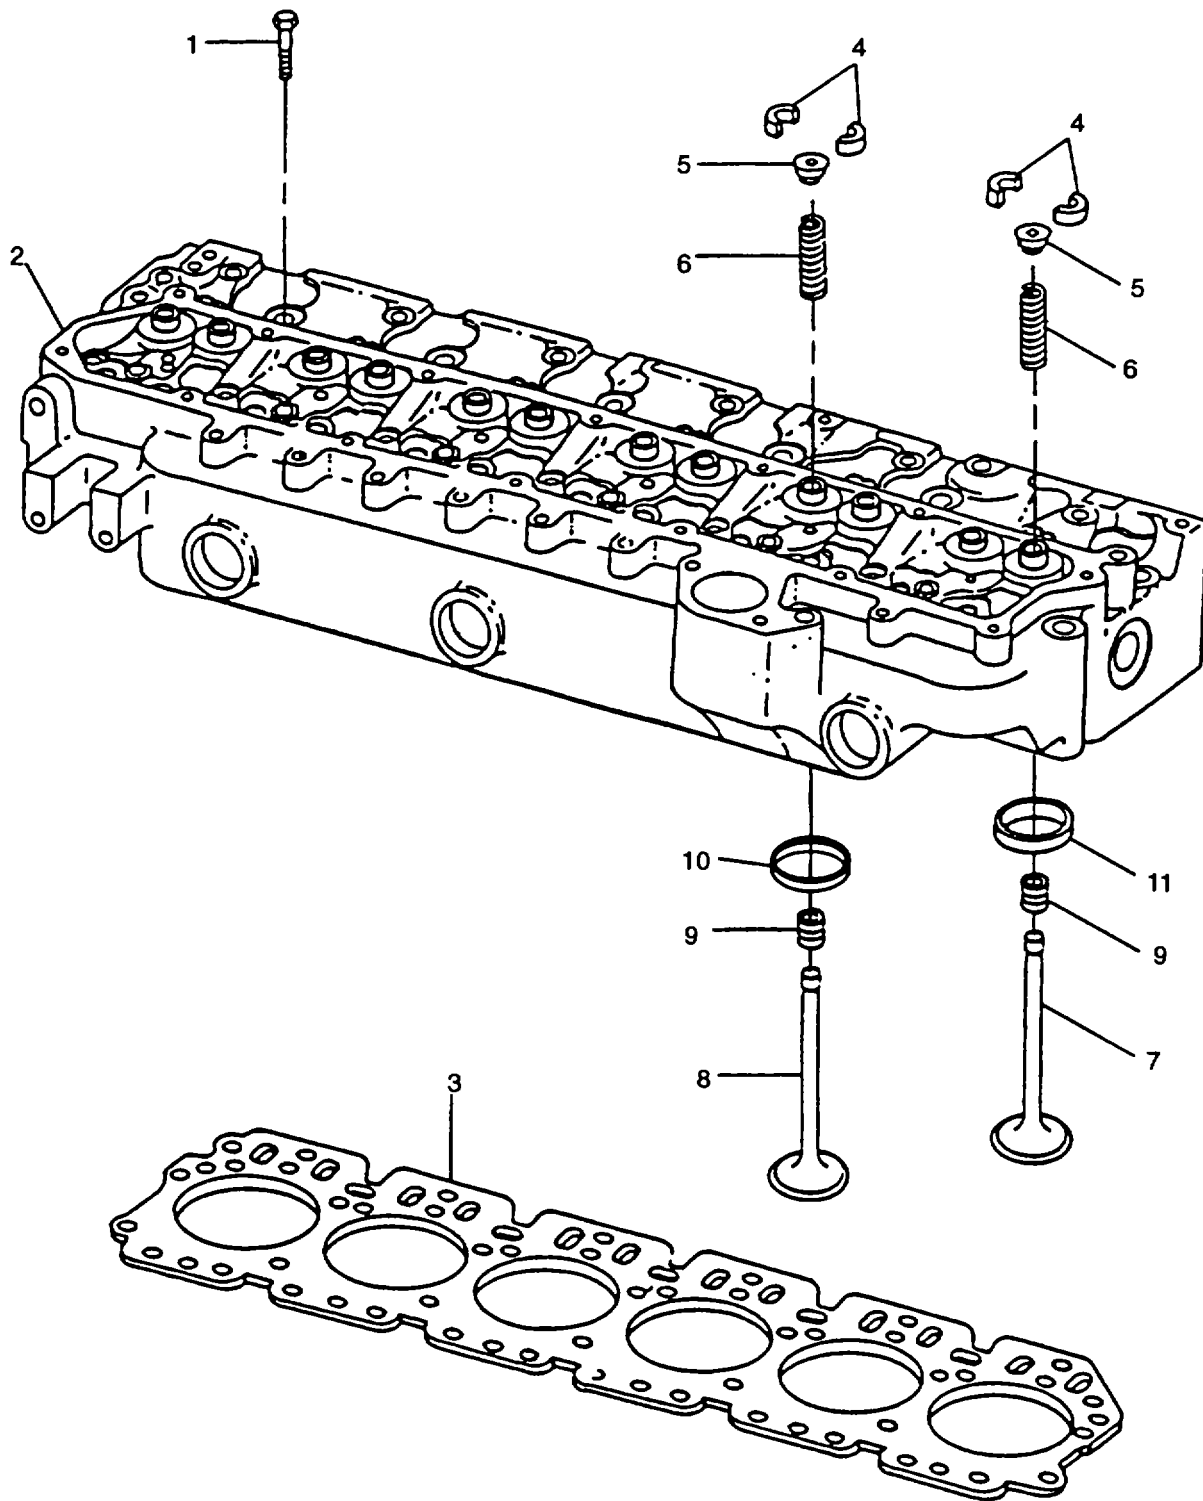

FIGURE 3-119. Cylinder Head Assembly
- k. If a blown head gasket is suspected, check and record each cylinder head capscrew (1, FIGURE 3-119), torque before removing them as follows:
- (1) Make a reference mark (in-line) on head of capscrew and cylinder head surface.
- (2) Loosen capscrew at least 1/2 turn, then retighten capscrew (using a torque wrench) until reference marks align and record torque.
- l. Remove twenty-six capscrews (1) securing cylinder head to engine block.
Block cylinder head (2, FIGURE 3-119) using a solid block of wood at each end of head for support while using spring compressor to avoid personal injury.